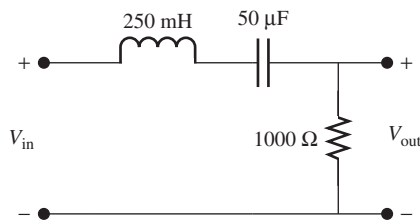

FIGURE P7.38 Circuit for Problem 7.38.
- 7.38** (A)* From the circuit shown in Figure P7.38, determine: